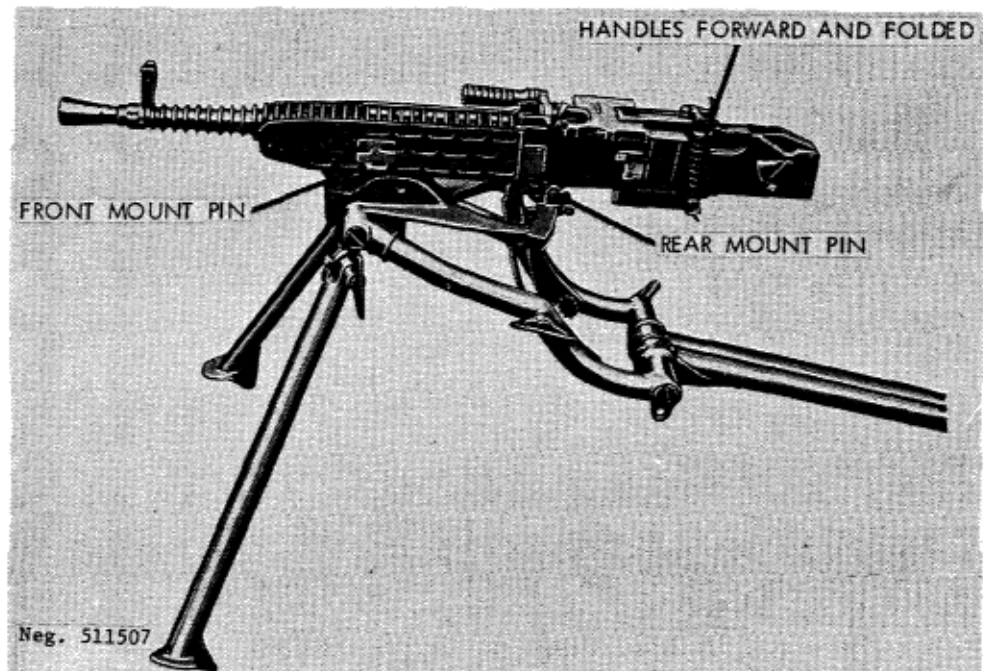

Figure 208. ZB-37 on its tripod.
- b. Mount the gun on its tripod by seating the mounting brackets onto their seats in the mount and installing the mounting pins (fig 208).